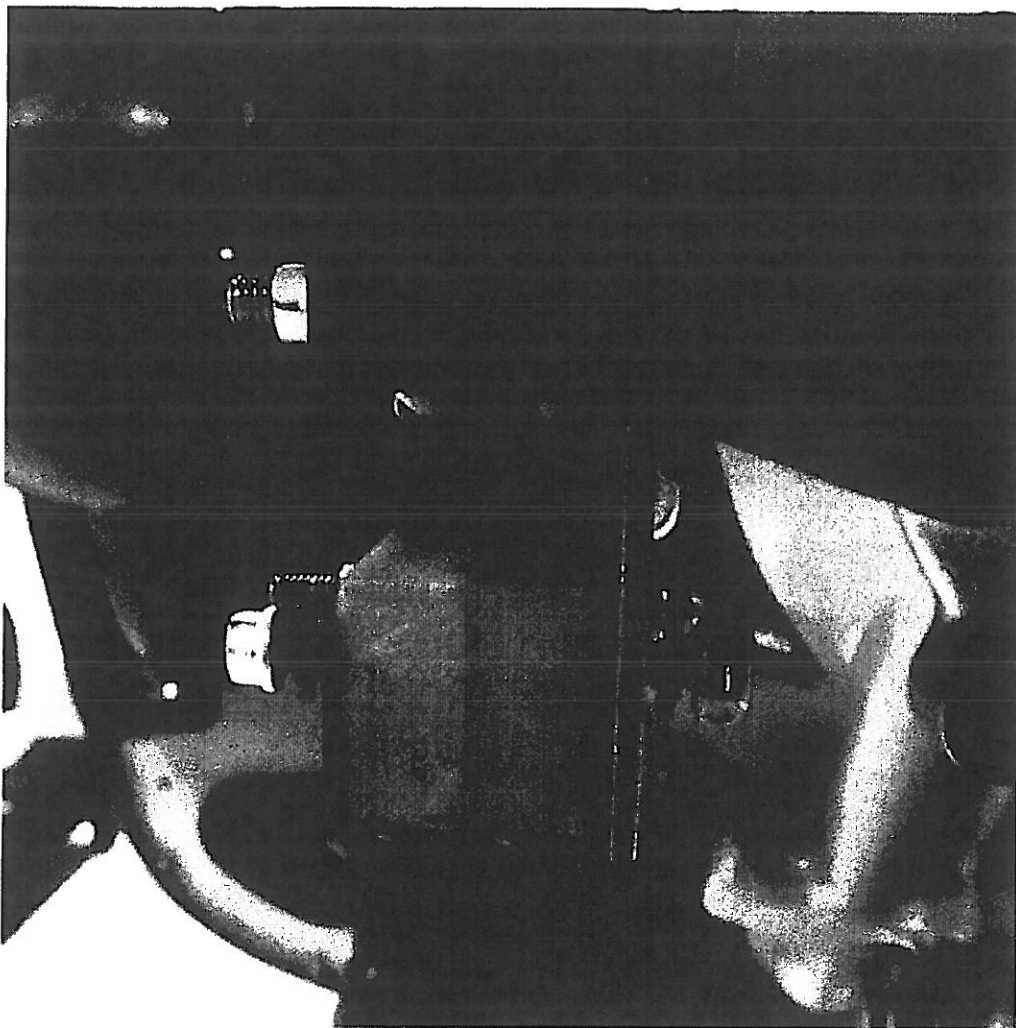

Figure 6
G. Install MOV module on the MOV mounting plate as shown in Figure 6 using the following procedure: